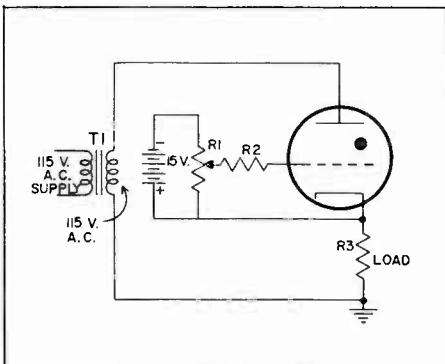
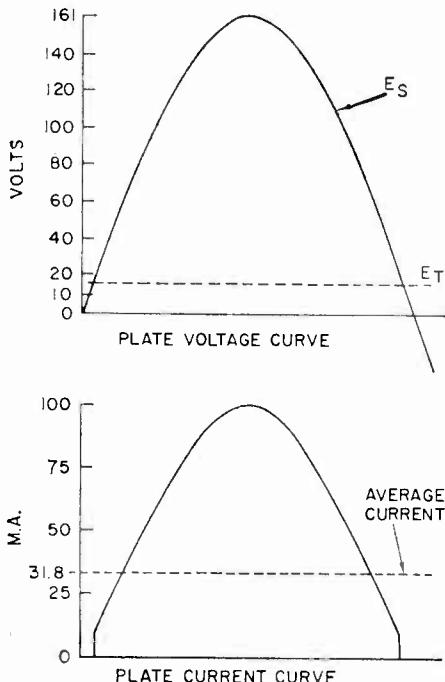

FIG. 5. Grid controlled thyratron rectifier circuit.
FIG. 6. Plate current with zero grid volts.
**Bias Control.** The method of controlling the output of a thyratron by setting the dc bias on the grid is called bias or amplitude control. Fig. 5 shows a grid controlled rectifier that we can use to illustrate the grid bias control principle. This circuit is a grid-controlled half-wave rectifier and is one that is sometimes used in industrial circuits.
The circuit in Fig. 5 is much like any half-wave rectifier except for the adjustable bias arrangement in the grid circuit of the thyratron. AC is supplied through the isolation transformer T1 to the plate of the tube. The rectified current produces a dc output potential across resistor R3 which represents the rectifier load. In the grid circuit, variable resistor R1 allows us to vary the grid to cathode bias from zero to -15 volts. Resistor R2 is a grid current limiting resistor.
When the grid to cathode voltage is zero the dc output of the circuit will be maximum. Moving the slider of R1 in Fig. 5 to the cathode end of R1 reduces the grid to cathode potential to zero. The tube will conduct each time the AC plate voltage goes positive and the circuit will function as an ordinary half-wave rectifier. Fig. 6 shows the plate voltage and current curve for the circuit in Fig. 5 with grid voltage at zero. The plate voltage curve shows the positive alternation of one cycle of 115 volt AC. An RMS voltage of 115 volts produces a peak voltage of 161 volts as shown. When the AC voltage cycle rises above the ionization potential marked ET in Fig. 6, the tube fires. The curve for the plate current jumps to a value determined by the plate voltage and the load resistance R3. As plate voltage increases to 161 volt, the plate current increases up to a maximum of 100 millamps. Then plate current falls as plate voltage decreases. When plate voltage drops below the ionization potential, plate current drops to zero because the tube de-ionizes. During the negative half cycle of plate voltage
While bias control is limited to controlling the current over the first 90° of the cycle, it is still useful. In Fig. 5 we showed a small thyratron controlling 100 milliamperes of current. A larger thyratron will work exactly the same but would pass much more current. It could be used to control the dc level of the power supply or the speed of a dc motor. The circuit enables us to control a large amount of current by simply adjusting the dc bias control.